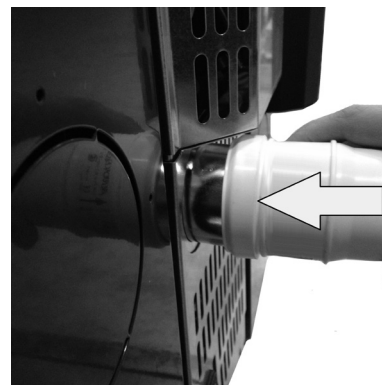

Fig. 14 - Phase 3
- Insert the female tube \varnothing 6 cm (see **Fig. 14**).